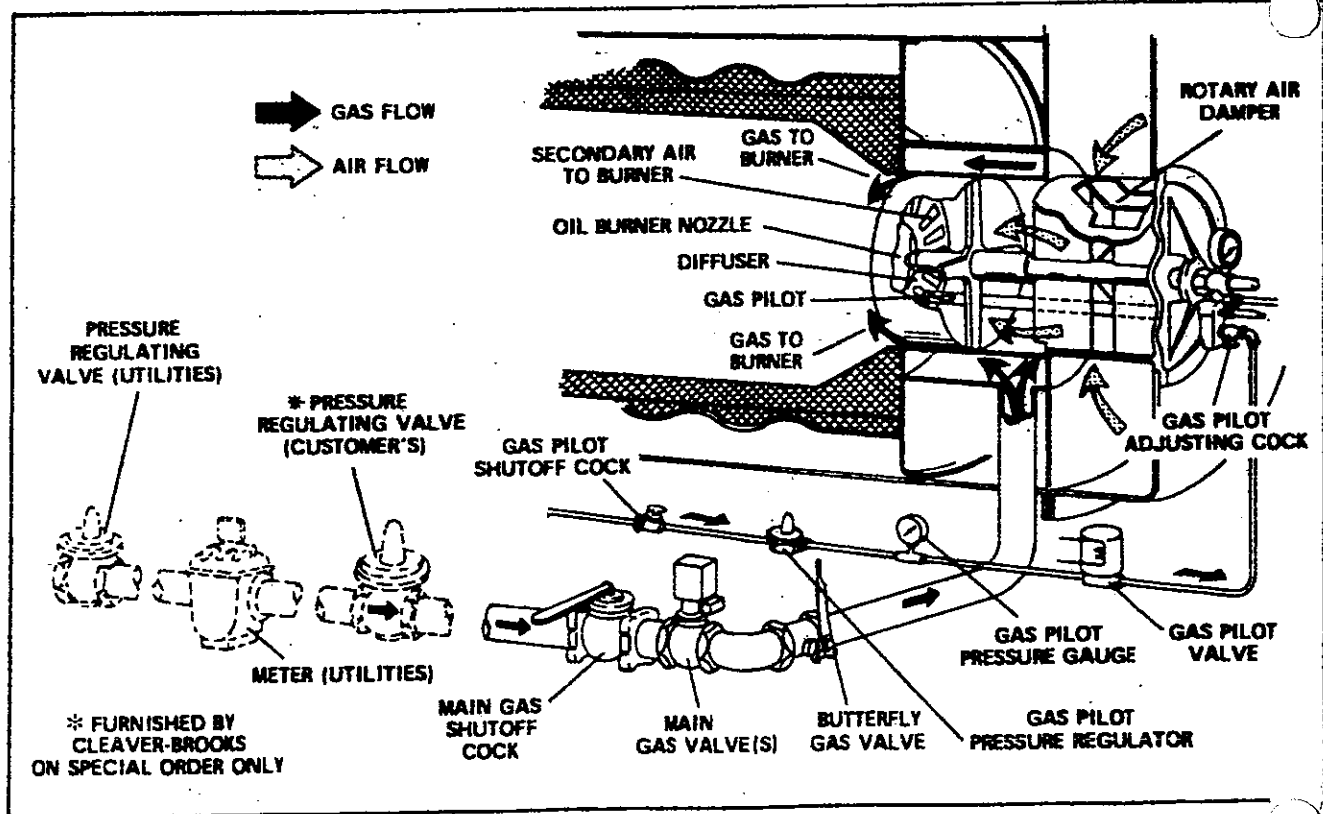

FIGURE 1-4 SECONDARY AIR FLOW WITH GAS TRAIN
- (17) Diffuser (figure 1-4 and 1-10): This is a circular plate located at the furnace end of the burner drawer to impart a rotary swirling motion to combustion air immediately prior to its entering the flame, thus providing a thorough and efficient mixture with the fuel.
- (18) Rotary Air Damper (figure 1-4 and 1-10): This damper provides accurate control of com-